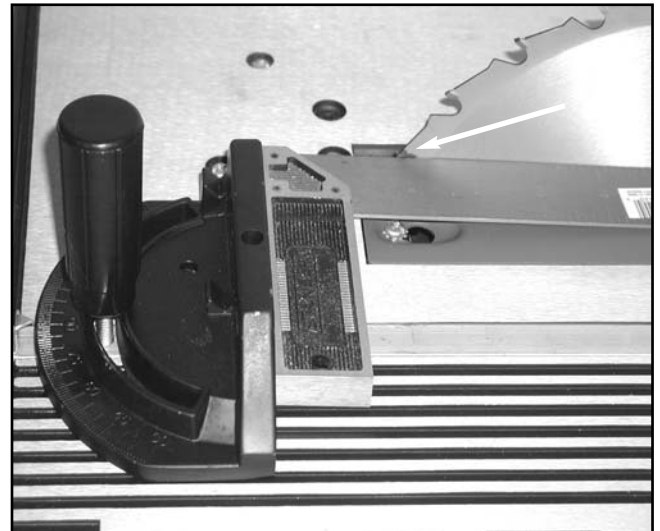

Figure 21. Testing for table parallelism.
- Place your miter gauge (set at 90°) in its slot, even with the front of the blade. Place a square between it and the side of the blade. See **Figure 21**.